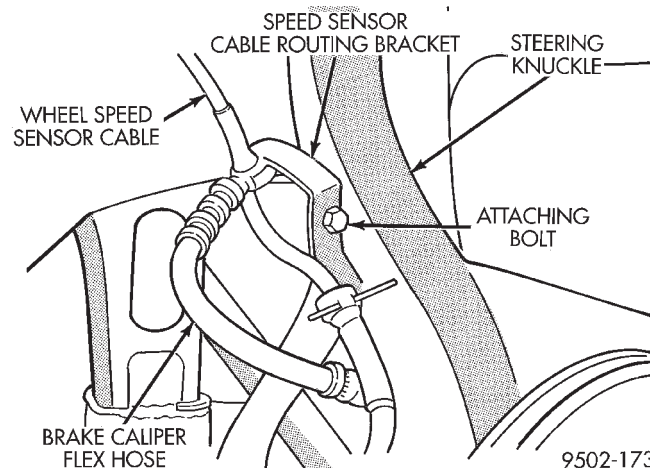

Fig. 66 Speed Sensor Cable Routing Bracket
(11) If equipped with antilock brakes remove the speed sensor cable routing bracket (Fig. 66) from the steering knuckle.
(1) Slide drive shaft back into front hub/bearing assembly.
(2) Install the steering knuckle on the lower control arm ball joint.
(3) Install the steering knuckle to lower ball joint castle nut.
(4) Install upper ball joint stud in steering knuckle.
(5) Install the steering knuckle to upper ball joint stud castle nut.
(6) Using a crow foot and torque wrench, tighten the upper and lower ball joint castle nuts to the following torque specifications.
(7) If equipped with antilock brakes install the speed sensor cable routing bracket on the steering knuckle (Fig. 66) and securely tighten attaching bolt.